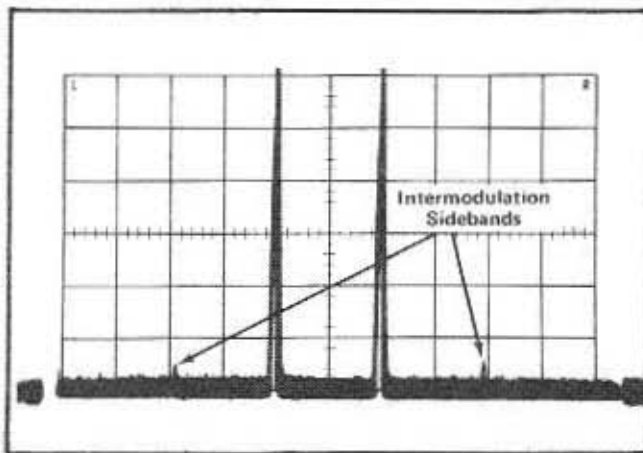

Fig. 5-7. Typical display when measuring intermodulation distortion.
g. CHECK—Intermodulation distortion, by noting the amplitude of the sidebands. Amplitude must not exceed 0.6 division; see Fig. 5-7.